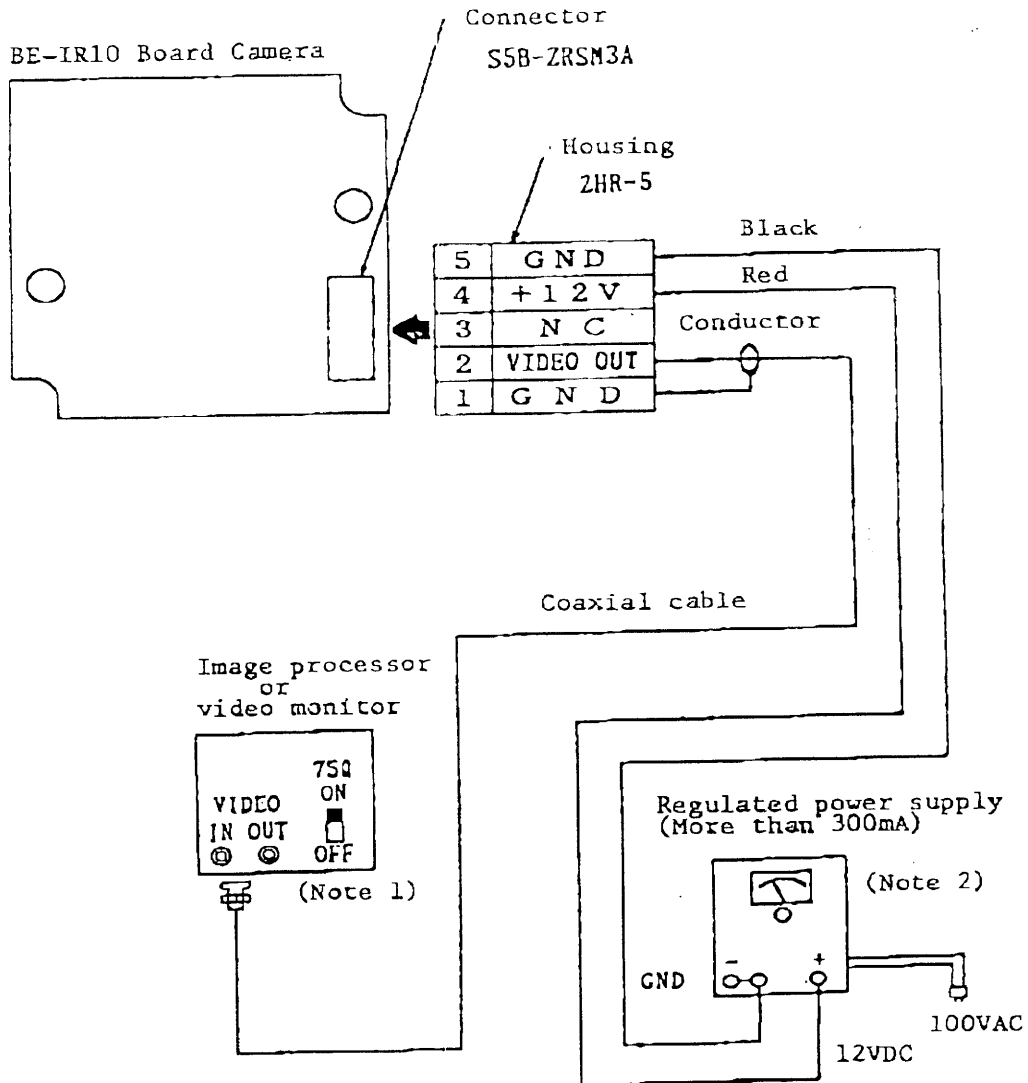

Fig. 4
- Prior to turning on the power switch, check that the polarities of the power cable are correct, referring to the connection diagram (Fig.4).